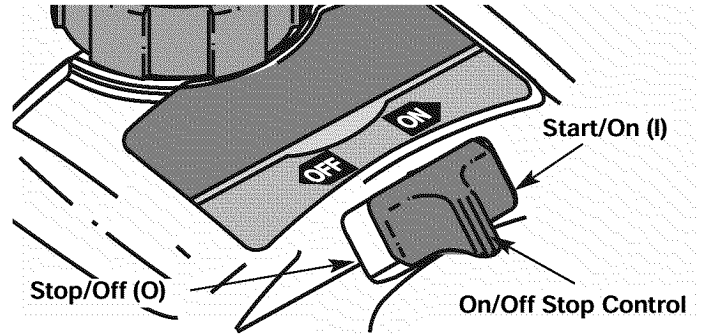
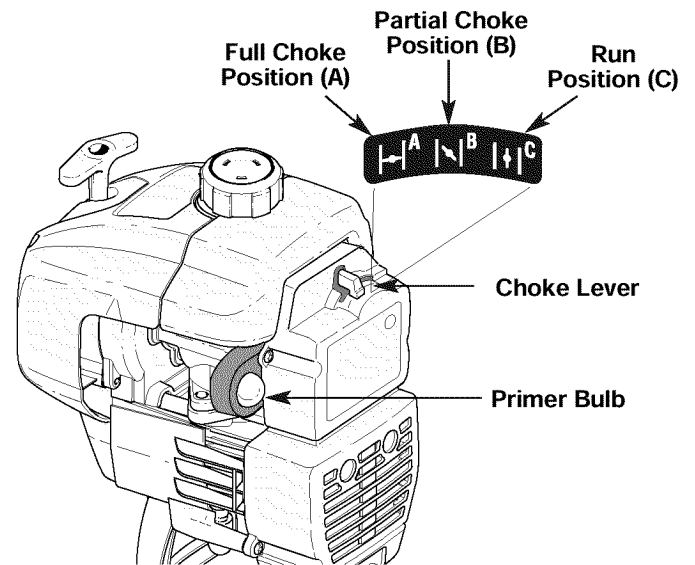

Fig. 7
Fig. 8
2. Put the On/Off Stop Control in the **ON (I)** position (Fig. 7).
3. Fully press and release the primer bulb 10 times, slowly, until **FUEL IS VISIBLE IN THE PRIMER BULB** (Fig. 8). If you can't see fuel in the bulb, press and release the bulb as many times as it takes before you can see fuel in it.
4. Place the choke lever in the **FULL** choke (**A** |←|) position (Fig. 8).
6. Place the choke lever in the **PARTIAL** choke (**B** |↘|) position (Fig. 8).
NOTE: If the engine floods while trying to start, place the choke lever in the **RUN** (**C** |→|) position (Fig. 8). Squeeze the throttle control. Pull the starter rope briskly. The engine should start within three (3) to eight (8) pulls.
9. Squeeze the throttle control to warm up the engine for 5 to 10 seconds. Place the choke lever in the **RUN** (**C** |→|) position (Fig. 8).
NOTE: Choking is unnecessary when starting a warm engine. Put the On/Off Stop Control in the **ON** position (Fig. 7), and start in **PARTIAL** choke (**B** |↘|) position (Fig. 8). After starting, place the choke lever in the **RUN** (**C** |→|) position.
2. Put the On/Off Stop Control in the **OFF (O)** position (Fig. 7).